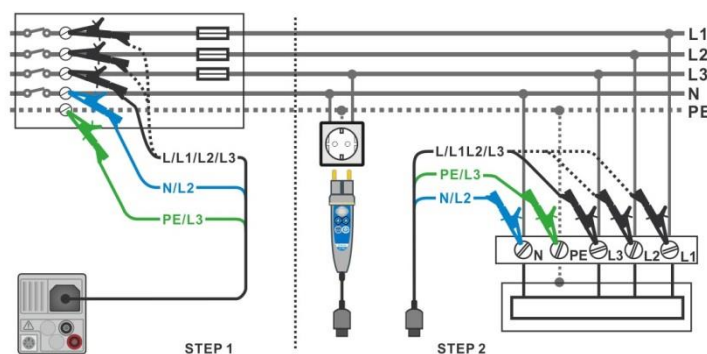

Figure 7.49: Voltage drop measurement – connection of Plug commander and 3-wire test lead
- › Connect test leads to the origin of electrical installation, see **Figure 7.49**.
- › Connect test leads or Plug commander to the tested points, see **Figure 7.49**.